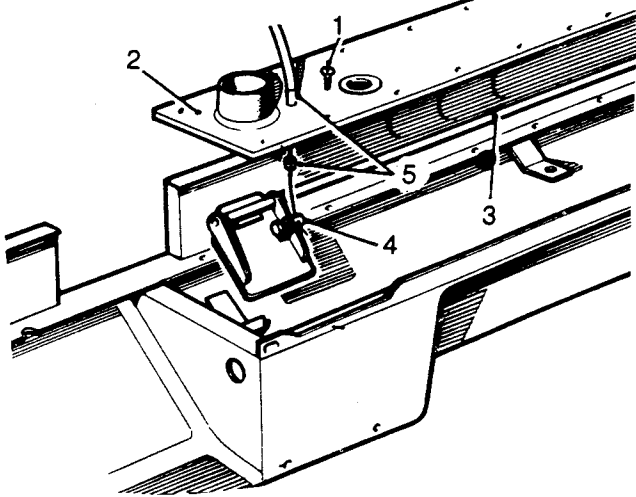

Fig N3.4
- (3) Refer to Fig N3.4. Remove the heater ducting cover fixings (1).
- (4) Withdraw the ducting cover (2) to gain access to the air distribution flaps.
- (5) Withdraw the distribution flaps from the fascia (3).
- (6) Disconnect the inner cable at the flaps (4).
- (7) Withdraw the outer cable (5) retained at the ducting cover by a tubular clip.